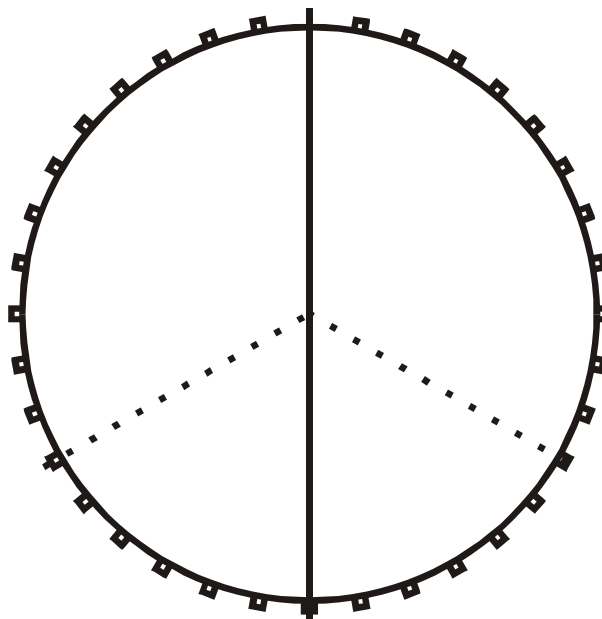

Figure B5.1 – Ford 36-1 motronic style wheel
- Care must be taken when selecting a Tooth Offset. If the tooth offset is selected such that it will cause the missing tooth to be required to perform a trigger, incorrect trigger timing and poor engine operation will result. In figure B5.1 the solid lines show where a 4 cylinder cannot select a tooth offset and the dashed line shows where a 6 cylinder cannot select a tooth offset. These teeth will cause a trigger at the missing tooth. This rule applies for all motronic style wheels.